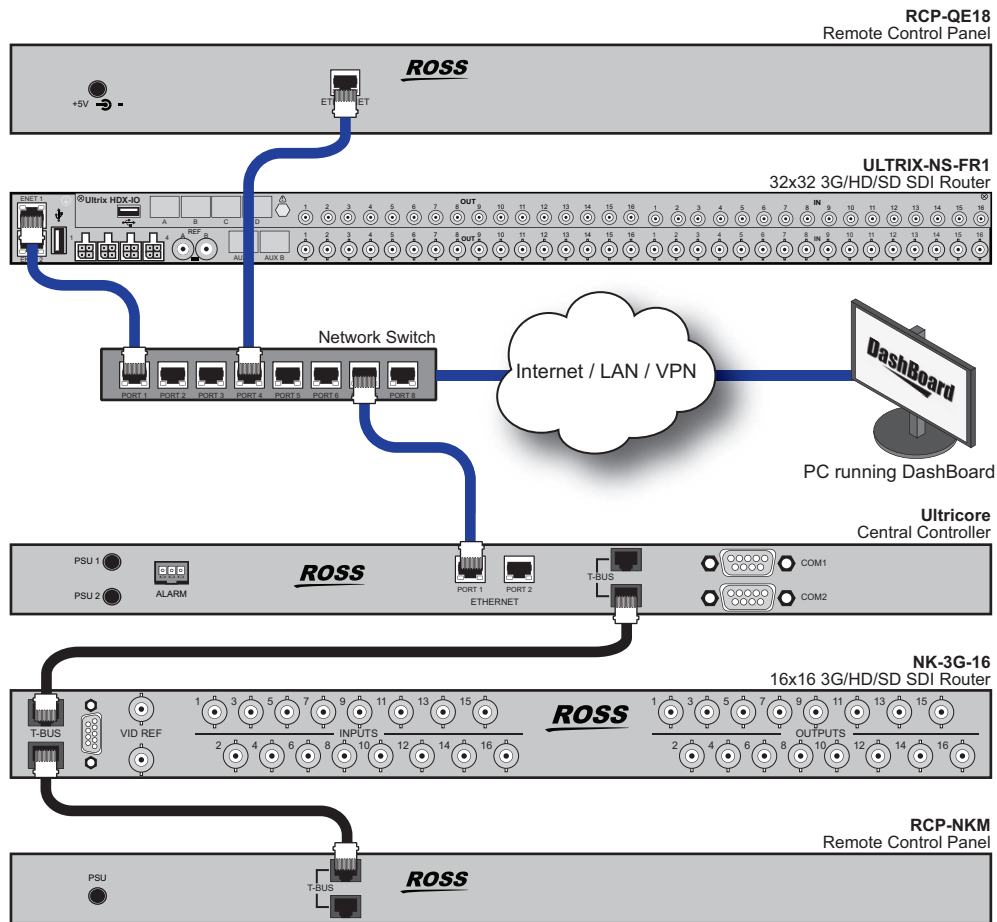

Figure 37 Example of a Routing System with Ross NK Devices and an ULTRIX-FR1 Router
- Connect the NK device via the T-Bus connections on an Ultracore and then set up communications via the Ultracore interface in DashBoard. (**Figure 37**)
Adding an Ultracore Central Controller (CC) to the system allows for native T-BUS devices to be added to the system, as well as RS-232 or RS-422 third-party control. The Ultracore communicates over Ethernet to devices in your routing system. **Figure 37** shows a typical connection of Ultracore